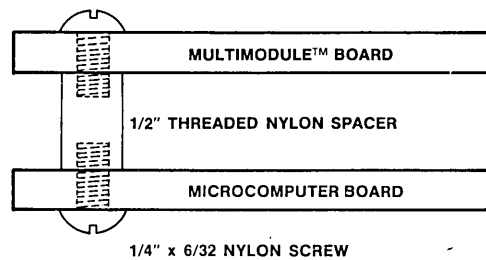

Figure 2-10. Multimodule Board Installation
- b. With one of the screws, secure the plastic spacer to the host iSBC microcomputer board as shown in Figure 2-10.